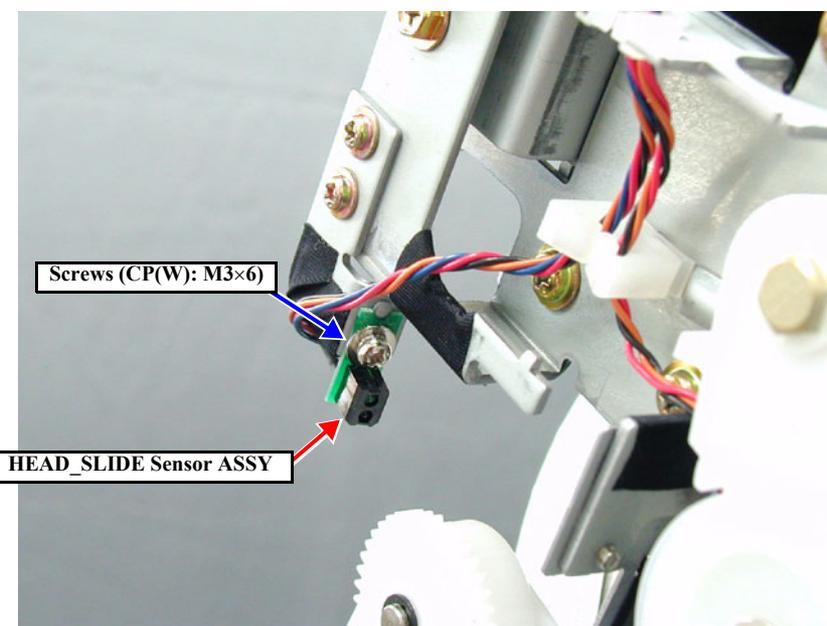

Figure 4-44. Removing the HEAD\_SLIDE Sensor ASSY
5. Remove the one (CP(W): M3×6) screw securing the HEAD\_SLIDE Sensor ASSY and remove the HEAD\_SLIDE Sensor ASSY. (See *Figure 4-44*)